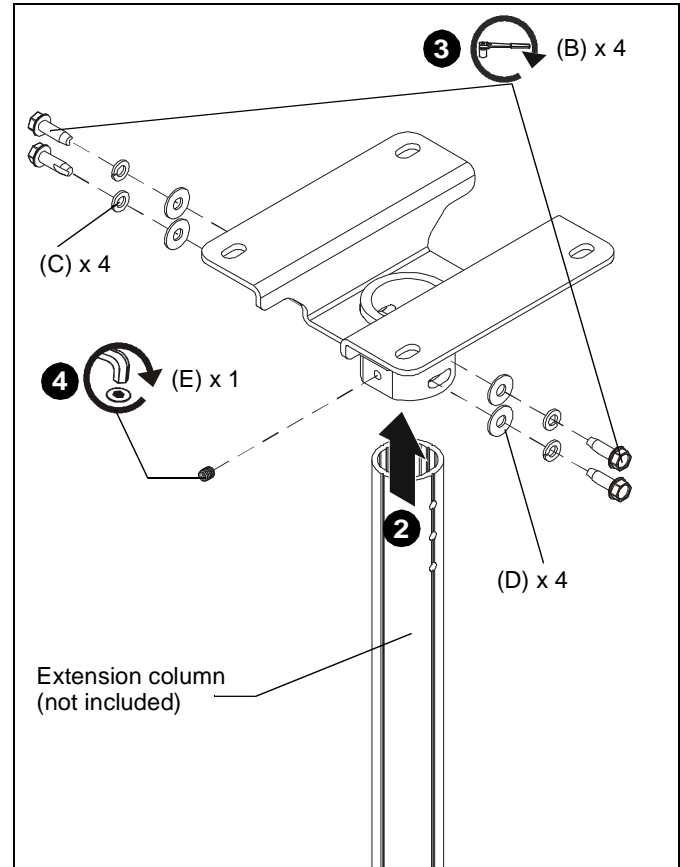

Figure 4
3. Secure extension column to CPA330 using four 5/16-18 x 1" hex head self-tapping screws (B), four 5/16" split lock washers (C) and four 5/16" flat washers (D) through holes in extension column. (See Figure 4)
4. Install one 5/16" x 1/2" set screw (E) into threaded hole, tightening firmly against column.